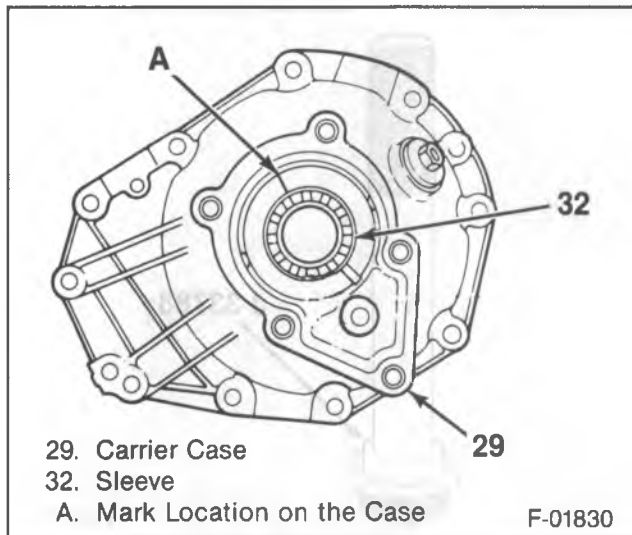

Figure 26—Marking Sleeve Location
4. Mark the location of the adjusting sleeves in relation to the carrier halves (figure 26), so the notches in the adjusting sleeves can be counted when turned.